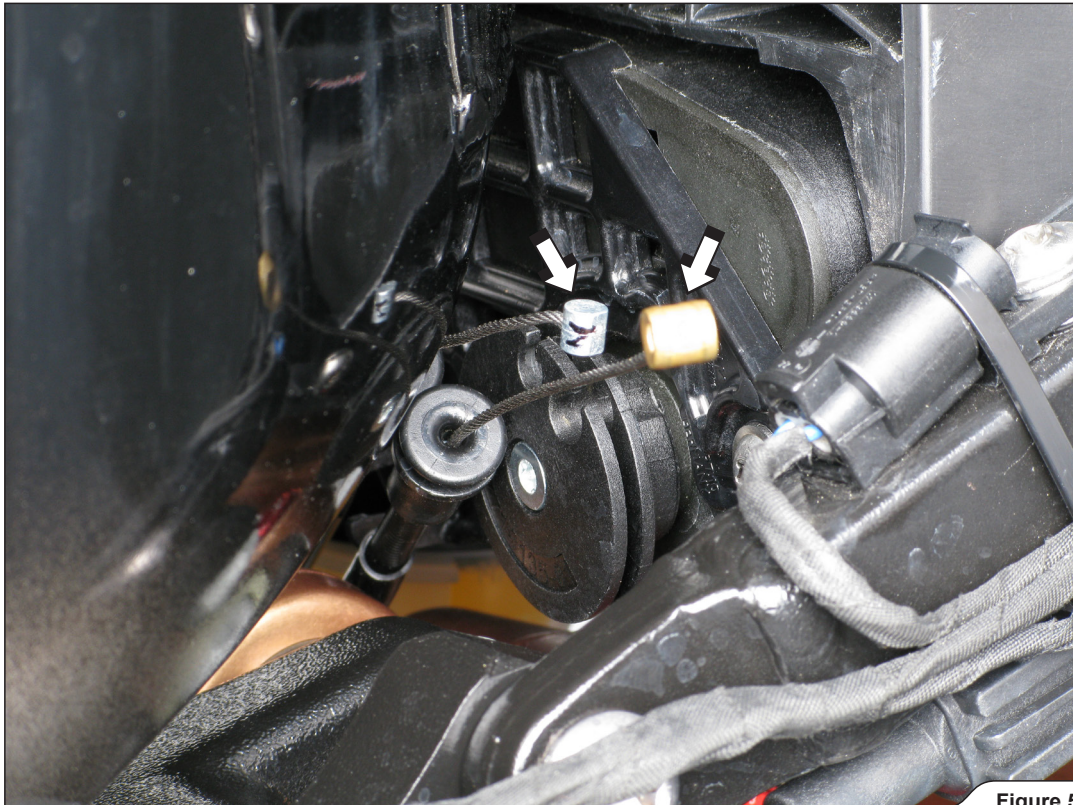

Figure 5
6. Remove the stock exhaust valve cables from servo motor (Figure 5).